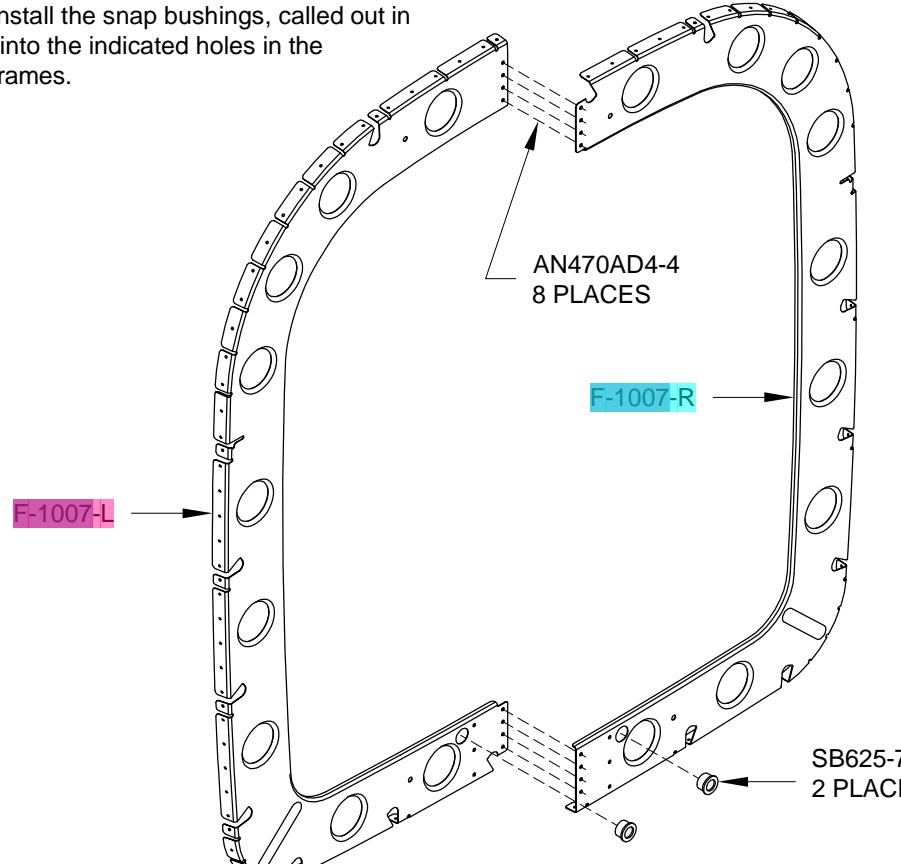

FIGURE 4: RIVETING THE F-1007 FRAMES
Step 3: Rivet the nutplates shown on Page 10-2, Figure 4 to the F-1011E Rudder Cable Angle using AN426AD3-4 rivets.